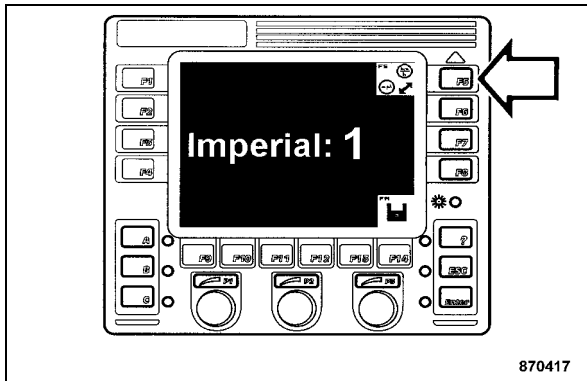

Fig. 80
- Press key "F5" (Fig. 80) and choose the units system.